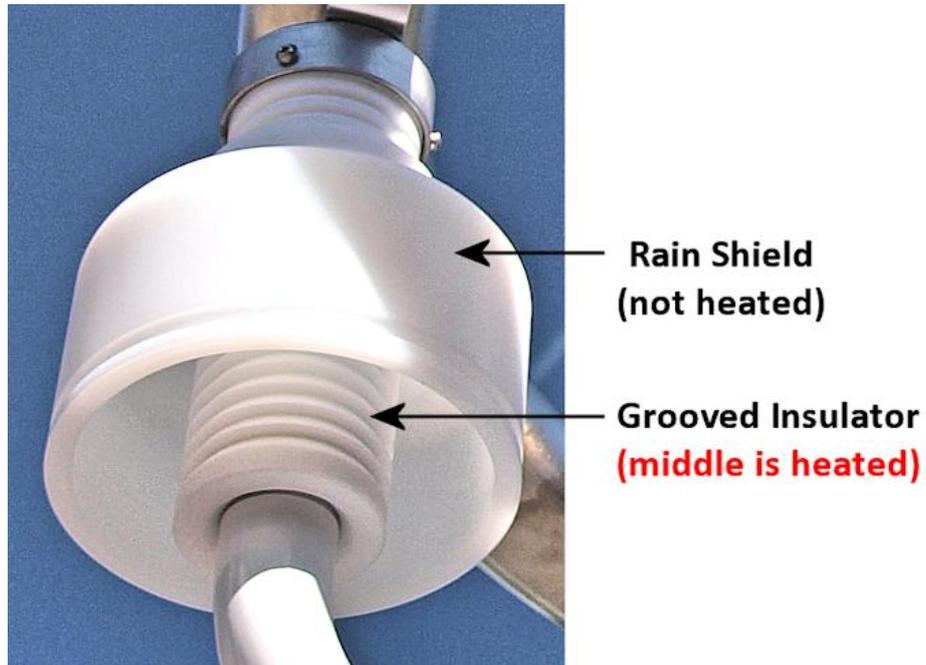

Figure 14: Antenna insulator unit (BTD-300 shown)
- If possible, check the insulator heaters are still operating by identifying that the temperature near the middle of the grooved insulator cylinder behind the rain shield is at least 1°C (typically 5°C) warmer than the surrounding air temperature. A picture showing the location of the inner grooved insulator block is provided in Figure 14.